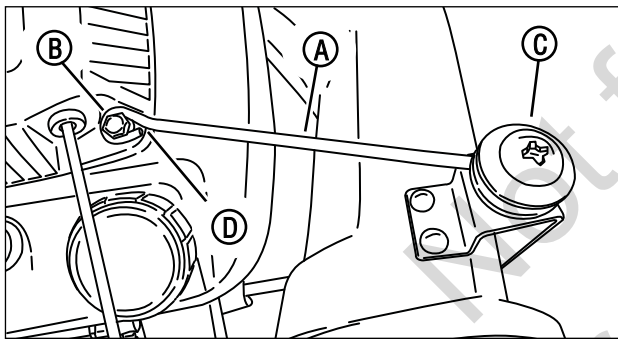

Figure 12: Installing the adapter standoff
5. Attach the grass bag adapter standoff (**A, Figure 12**) between the rope guide pulley and the engine recoil: